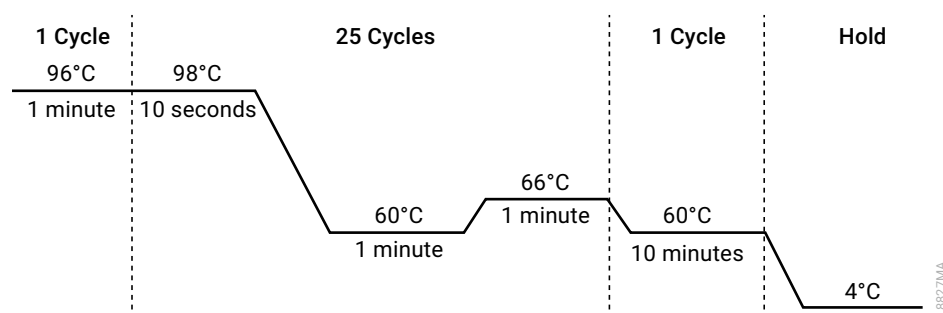

Figure 30. Thermal cycling protocol for the Mastercycler® X50s PCR System.
- Select and run the protocol provided below and in Figure 30. The total cycling time is approximately 80 minutes.